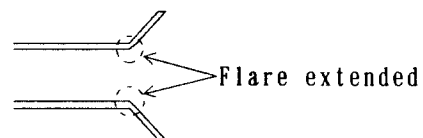

Fig. 2
- ② To tighten the flare nut, use a torque wrench.
- ③ The flare part is extended and gas leakage may occur, if excessive force is applied to tighten the flare nut as shown in Fig. 2.